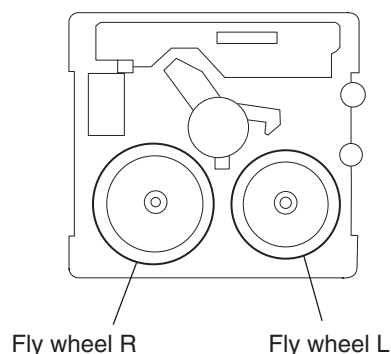

Fig.8
■ Removing the flywheel (See Fig.8,9)